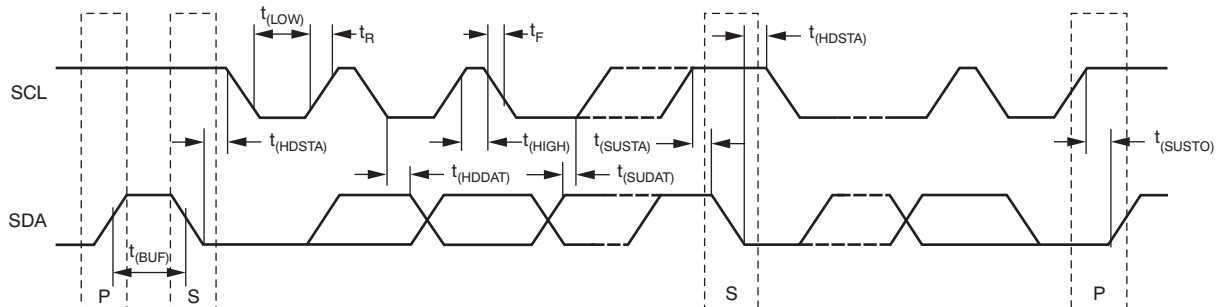

图 30. Bus Timing Diagram
When the bus is idle, both the SDA and SCL lines are pulled high by the pullup resistors. The master generates a START condition followed by a valid serial byte containing high-speed (HS) master code 00001XXX. This transmission can be made at 400-kHz data rates. 图 30 shows a timing diagram for the bus and 表 3 lists the bus timing definitions.